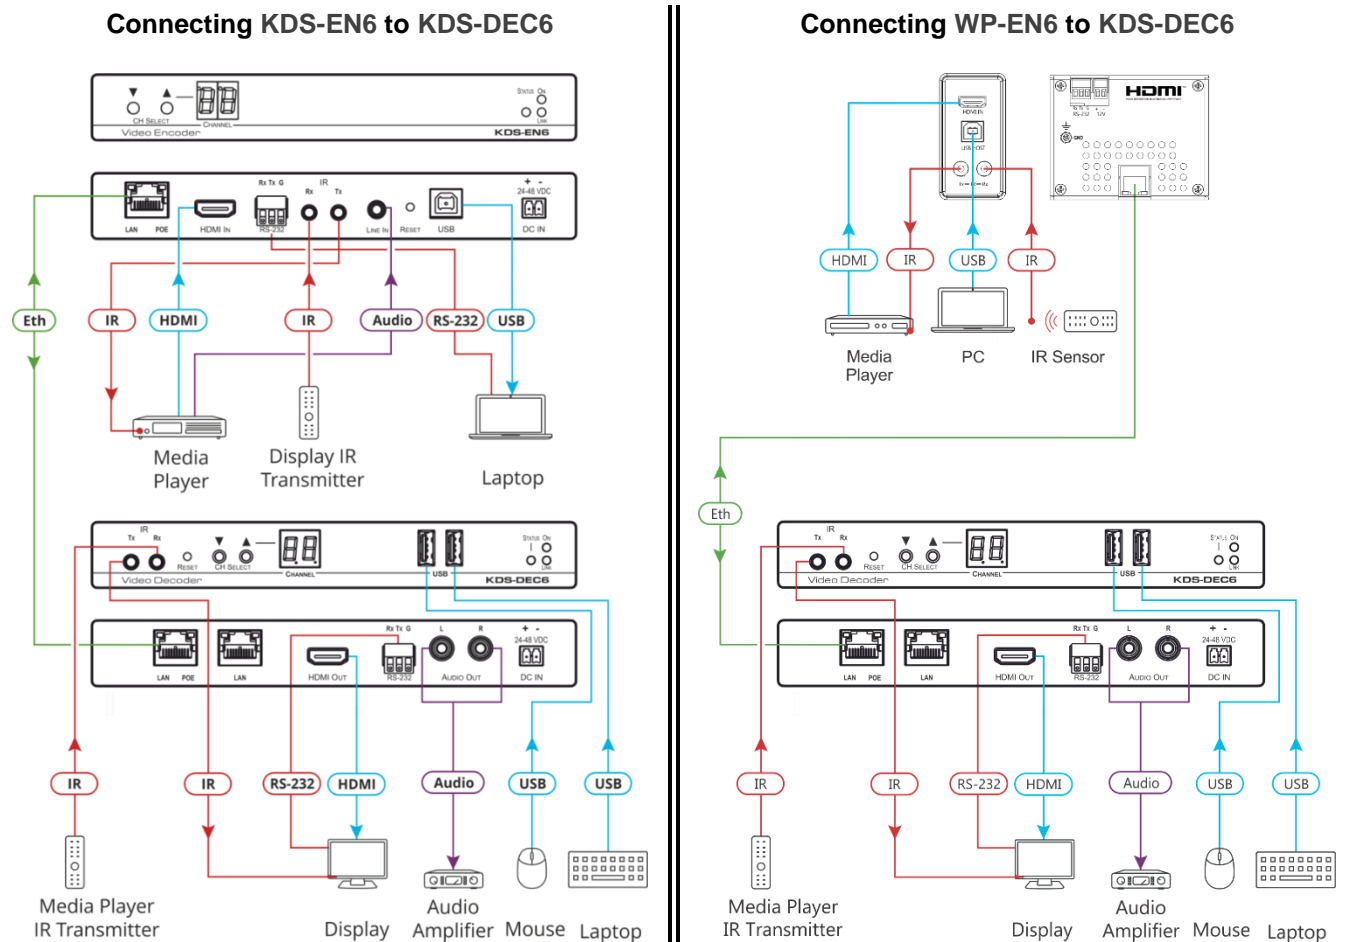

Figure 6: Connecting an Encoder and Decoder System
You can use one **KDS-EN6** device and one **KDS-DEC6** device to configure an encoder and decoder system (see Figure 6).
To connect the encoder and decoder system as shown in the example in Figure 6:
4. If you are not powering the device via PoE, connect the **KDS-DEC6** and the **KDS-EN6** to the 24-48V DC power adapter and connect the adapter to the mains electricity (not shown in Figure 6).